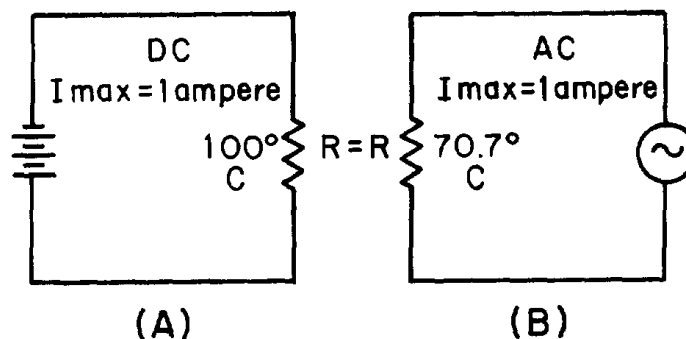

Figure 1-15.—Heating effect of ac and dc.
Figure 1-15 compares the heating effect of 1 ampere of dc to the heating effect of 1 ampere of ac.
Examine views A and B of figure 1-15 and notice that the heat (70.7° C) produced by 1 ampere of alternating current (that is, an ac with a maximum value of 1 ampere) is only 70.7 percent of the heat (100° C) produced by 1 ampere of direct current. Mathematically,
Stated another way, the effective or rms value ( $I_{\text{eff}}$ ) of a sine wave of current is 0.707 times the maximum value of current ( $I_{\text{max}}$ ). Thus,  $I_{\text{eff}} = 0.707 \times I_{\text{max}}$ . When  $I_{\text{eff}}$  is known, you can find  $I_{\text{max}}$  by using the formula  $I_{\text{max}} = 1.414 \times I_{\text{eff}}$ . You might wonder where the constant 1.414 comes from. To find out, examine figure 1-15 again and read the following explanation. Assume that the dc in figure 1-15(A) is maintained at 1 ampere and the resistor temperature at 100° C. Also assume that the ac in figure 1-15(B) is increased until the temperature of the resistor is 100° C. At this point it is found that a maximum ac value of 1.414 amperes is required in order to have the same heating effect as direct current. Therefore, in the ac circuit the maximum current required is 1.414 times the effective current. It is important for you to remember the above relationship and that the effective value ( $I_{\text{eff}}$ ) of any sine wave of current is always 0.707 times the maximum value ( $I_{\text{max}}$ ).